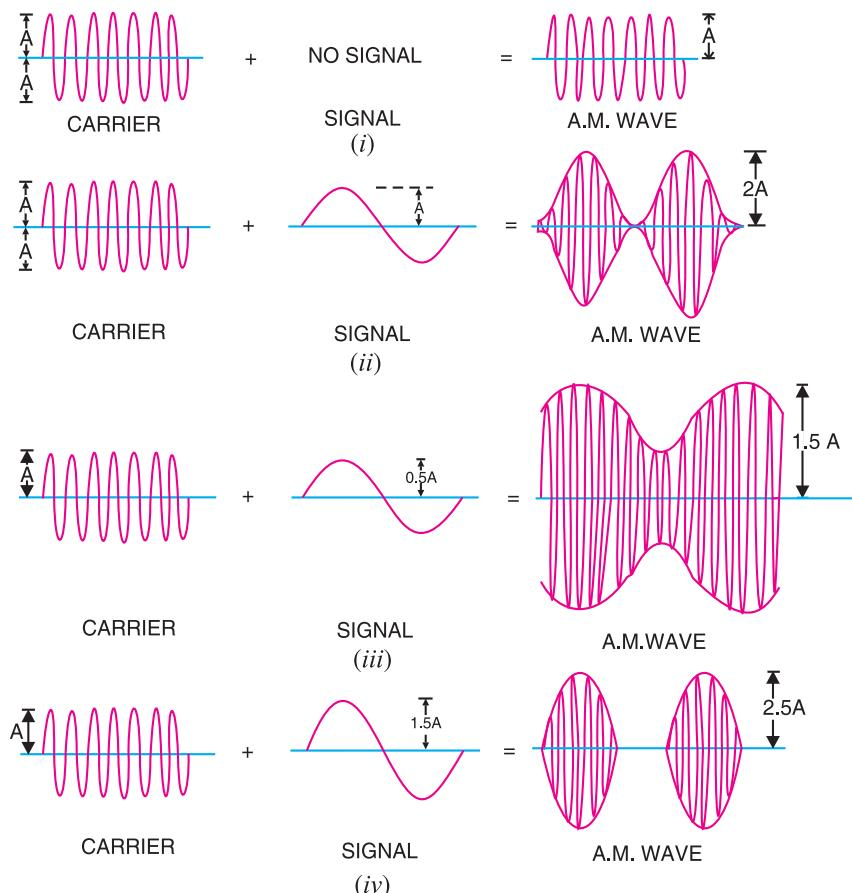

Fig. 16.3
The value of modulation factor depends upon the amplitudes of carrier and signal. Fig. 16.3 shows amplitude modulation for different values of modulation factor m .
- (i) When signal amplitude is zero, the carrier wave is not modulated as shown in Fig. 16.3 (i). The amplitude of carrier wave remains unchanged.
(ii) When signal amplitude is equal to the carrier amplitude as shown in Fig. 16.3 (ii), the amplitude of carrier varies between $2A$ and zero.
(iii) When the signal amplitude is one-half the carrier amplitude as shown in Fig. 16.3 (iii), the amplitude of carrier wave varies between $1.5A$ and $0.5A$.
(iv) When the signal amplitude is 1.5 times the carrier amplitude as shown in Fig. 16.3 (iv), the maximum value of carrier wave becomes $2.5A$.
Importance of modulation factor. Modulation factor is very important since it determines the strength and quality of the transmitted signal. In an AM wave, the signal is contained in the variations of the carrier amplitude. When the carrier is modulated to a small degree (*i.e.* small m), the amount of carrier amplitude variation is small. Consequently, the audio signal being transmitted will not be very strong. The greater the degree of modulation (*i.e.* m), the stronger and clearer will be the audio signal. It may be emphasised here that if the carrier is overmodulated (*i.e.* $m > 1$), distortion will occur during reception. This condition is shown in Fig. 16.3 (iv). The AM waveform is clipped and the envelope is discontinuous. Therefore, degree of modulation should never exceed 100%.